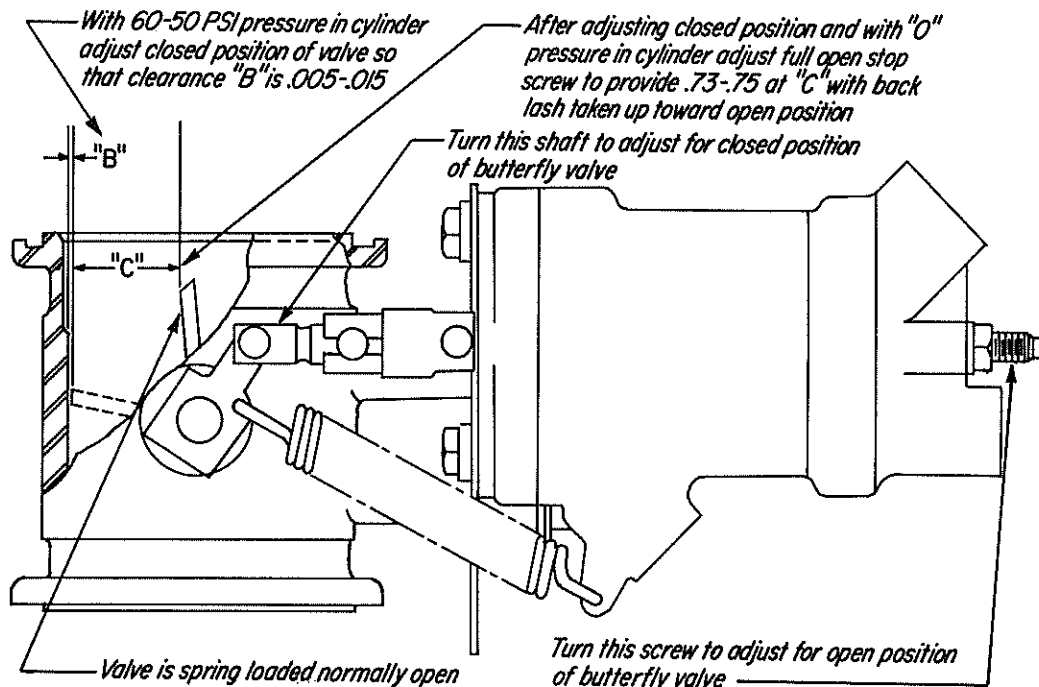

Figure 5-2. Exhaust Bypass Valve -
5. TURBOCHARGER EXHAUST BYPASS VALVE SETTINGS. The butterfly valve in the exhaust bypass valve is set to a predetermined open and closed clearance. The open and closed positions are called out in Figure 5-2.